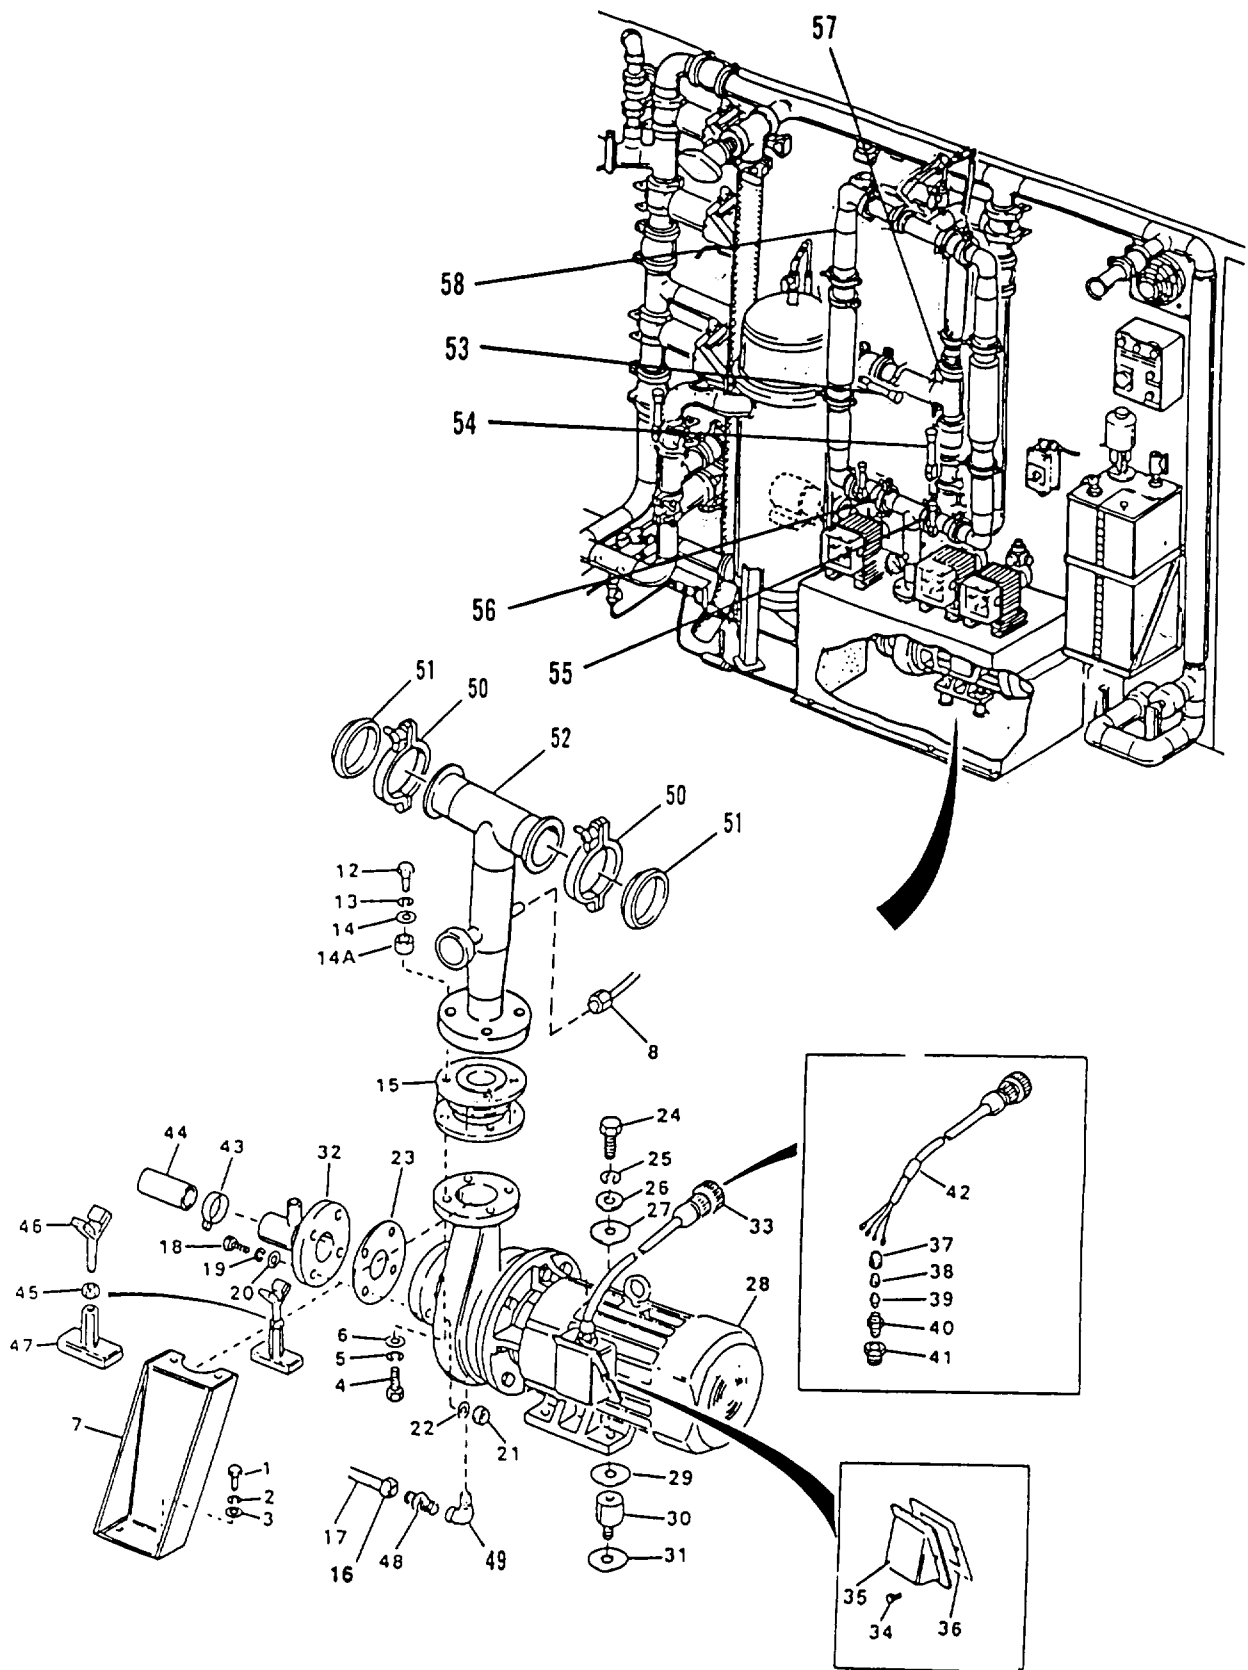

Figure 4-47.1 Booster Pump Motor Assembly (Sheet 1 of 2)
- a. Remove two screws (34), cover (35) and gasket (36) from the electrical box on the motor.
- b. Unscrew nut (137), and slide retainer (38) and bushing (39) up on cable (42).
- c. Refer to Figure 4-47.1, sheet 2 and disconnect and tag four wires from cable (42, sheet 1) as illustrated. Cable (42, sheet 1) is now free.
- d. Remove connector body (40) and reducing bushing (41). V
- e. Loosen the clamp (43) on the boot (44). Remove four capscrews(18). washers (20), nuts (21), lockwashers ( 9) and ,washer (22) and slide flange (32) away from pump to facilitate removal. Remove gasket (23).
- f. Loosen the nut (45) between the support (46) and bracket (47) and turn the bracket to obtain adequate room for pump removal.